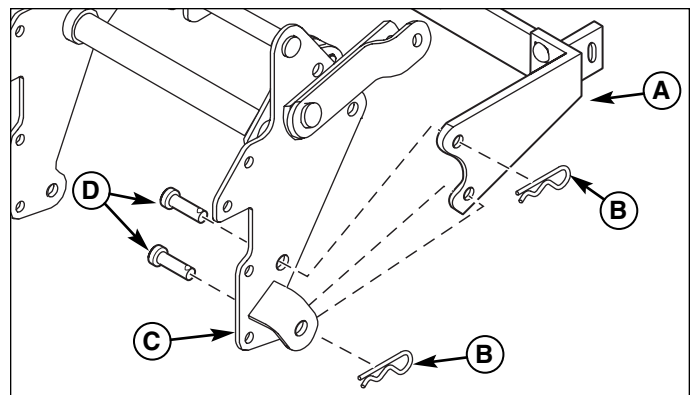

Figure 5. Hitch w/3 Point Hitch Installation
1. Install hitches and plate (A, Figure 5) by sliding clevis pins (D) through 3 Point Hitch (C), and hitch & plate (A). Secure with hair pins (B).